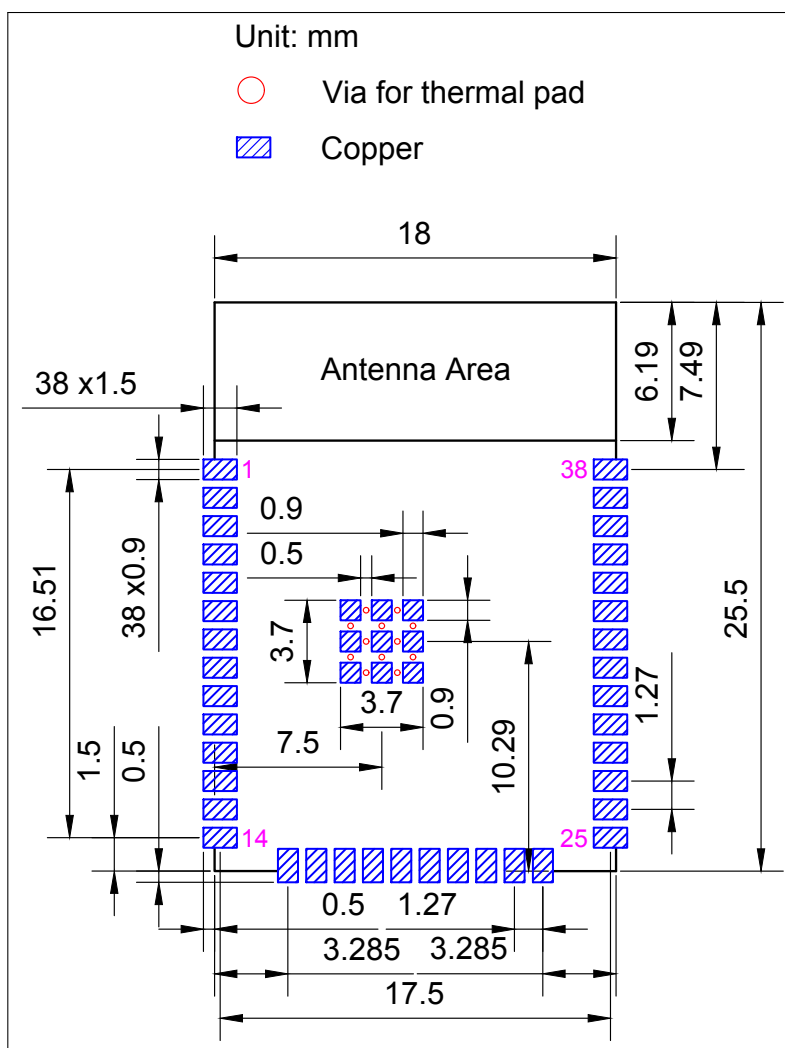

Figure 10: ESP32-WROOM-32E Recommended PCB Land Pattern
- Figures for recommended PCB land patterns with all the dimensions needed for PCB design. See Figure 10 *ESP32-WROOM-32E Recommended PCB Land Pattern* and Figure 11 *ESP32-WROOM-32UE Recommended PCB Land Pattern*.
- Source files of recommended PCB land patterns to measure dimensions not covered in Figure 10 and Figure 11. You can view the source files for ESP32-WROOM-32E and ESP32-WROOM-32UE with Autodesk Viewer.